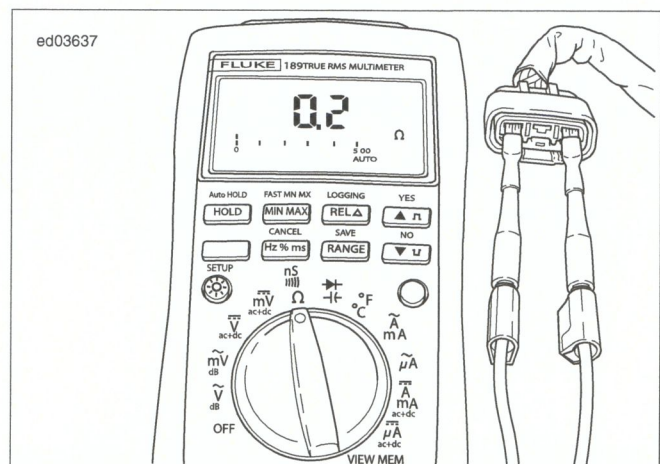

Figure 2-12. Check for Stator Resistance (Typical)
4. See Figure 2-12. Remove ground lead. Measure resistance across stator [47B] terminals 1-2, 2-3 and 3-1.